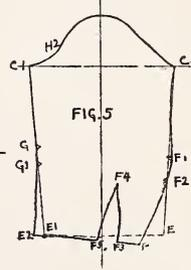

FIG. 5
If desired the left side may be extended down to full length, then it would appear just as Figure 5.
Plate 6, Figure 5, shows a plain V-neck blouse that leaves  $2\frac{1}{2}$  inches of the shoulder bare and a vest that leaves 2 inches of the front neck bare.
The round, square and other necks are developed in the same manner by locating the point desired on the shoulder and then the distance you wish the neck bare in front, then connect the two points with a line of the desired shape square, round or otherwise, as shown by the broken and dotted lines on Figure 5.
**One-Seam Fitted Sleeve**, shown on Figure 5, becomes very popular from time to time as the styles change.